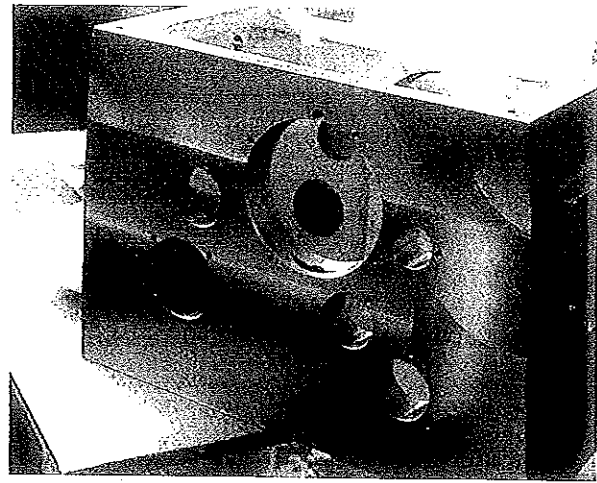

Figure 12
5. Clear oil return hole using air pressure. (Figure 12)